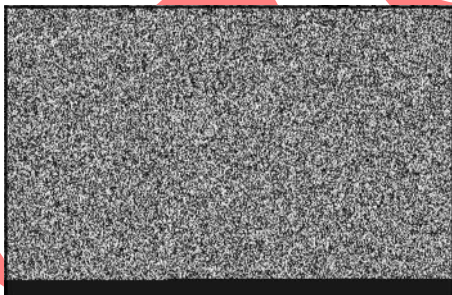

Figure 22
1. Loosen casing clamp screw (A, Figure 22).